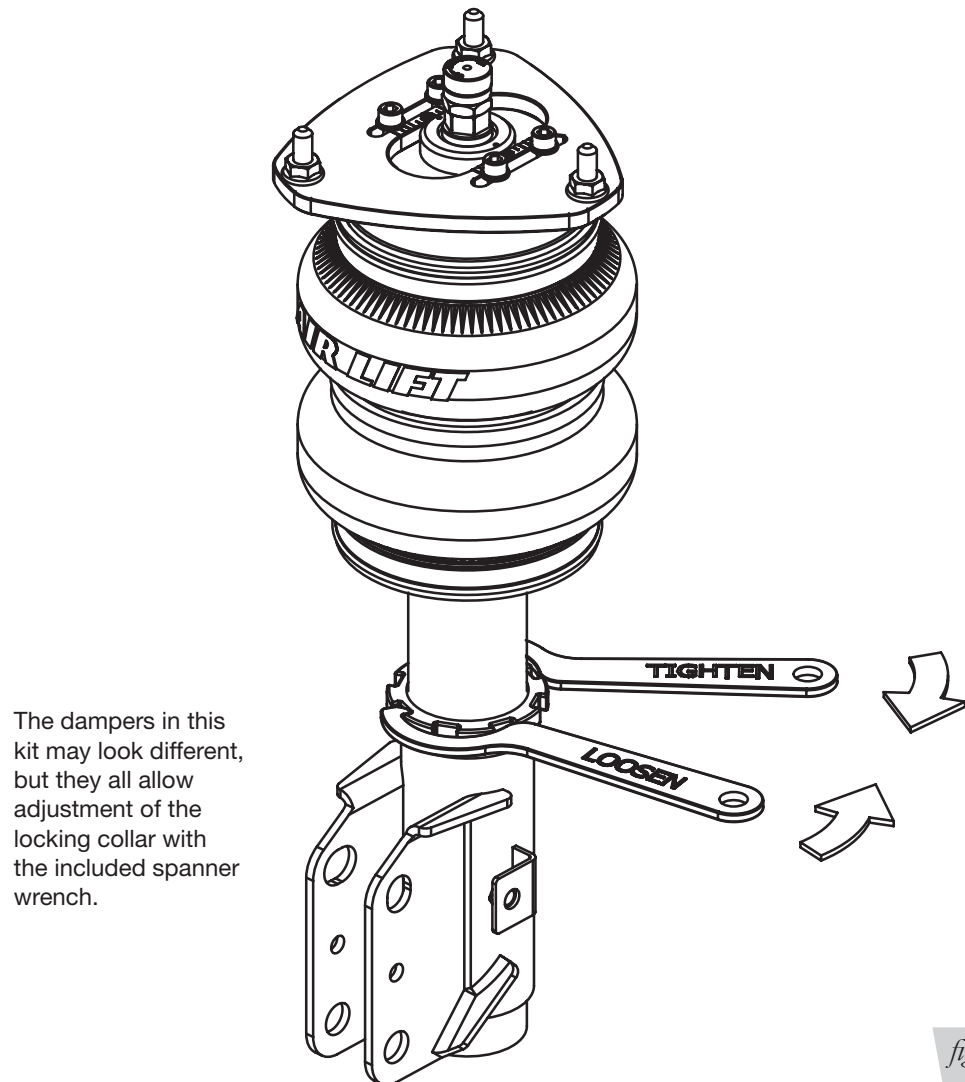

fig. F.4
3. Using the supplied spanner wrench, loosen the locking collar (Fig. F.4).